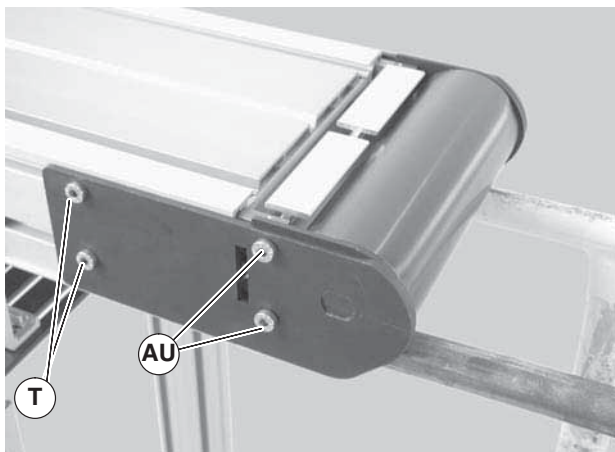

Figure 34
2. On one side of conveyor, loosen the two (2) back fastening screws (Figure 34, item T) and remove two (2) front fastening screws (AU).